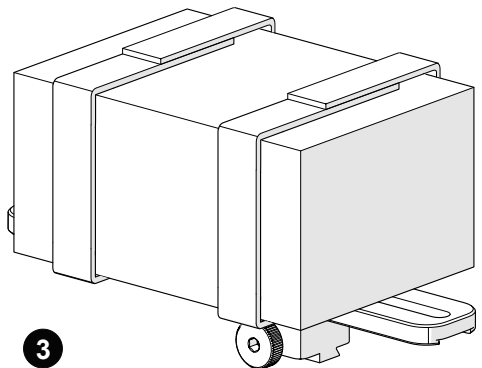

Fig. 103 - Mount bracket on a frame bar
3. Secure the preamp to the bracket attaching each side of the velcro (*Fig. 103*).